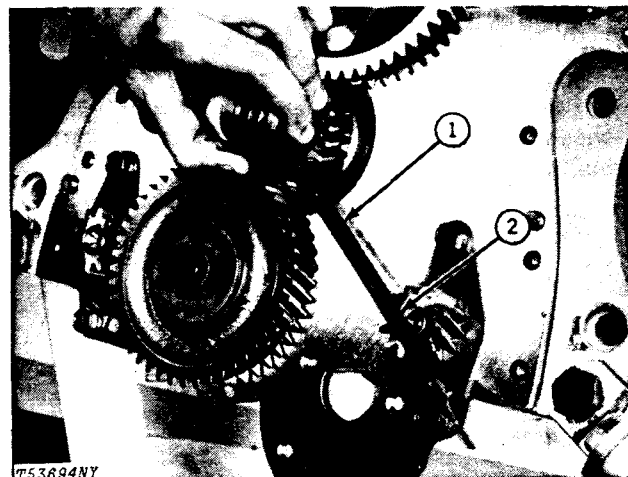

Fig. 39-JD254 Timing Tool
Using JD-254 Timing Tool (1, Fig. 39), align timing mark (2) on each balancer shaft gear with the timing tool.